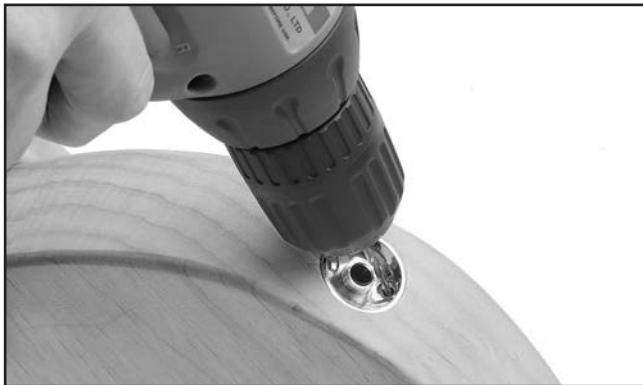

Figure 23. Drilling output jack mounting holes.
3. Using a 1/16" drill bit, drill 3/8" holes at a 45° angle into the body as shown in **Figure 23**.